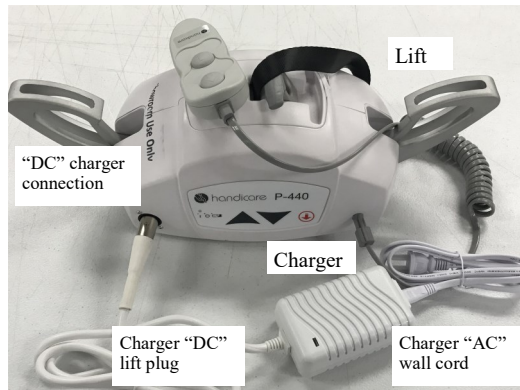

Figure 12A - **P-440** lift and charger set on a secure table top or counter for charging.
Step 1) Familiarize yourself with the basic components of the charging system. Refer to figures 12A and 12B.